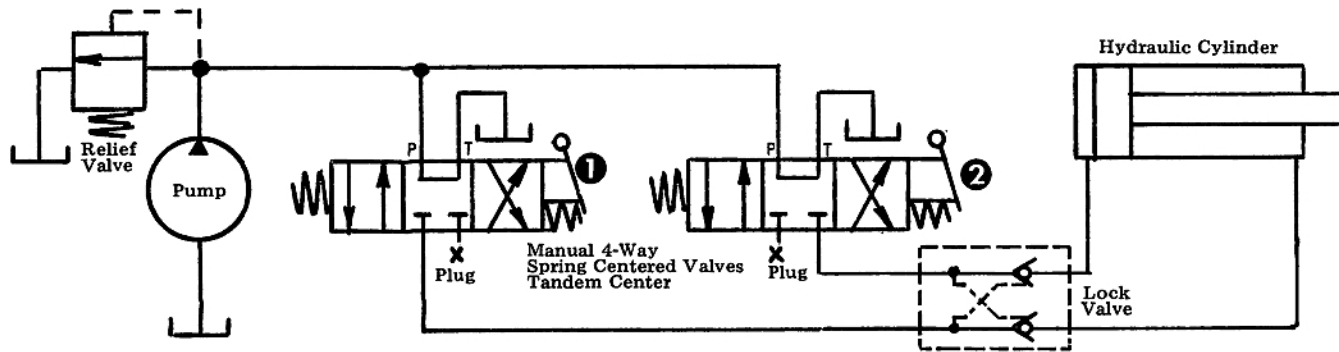

Figure 1. Manually operated 2-hand control for hydraulic cylinder – for oil volume less than 30 GPM.
**Figure 1.** The operator must shift both Valves 1 and 2 to get the cylinder to move. If only one of them is shifted, the pump oil will simply by-pass to tank through the spool of the other one. This circuit gives 2-hand control in both forward and reverse. The lock valve prevents the cylinder from drifting or sagging if only one of the control valves is shifted.